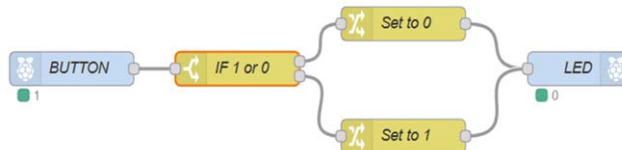

Figure 5.54 Modified flow program
You should see that the LED is ON, and pressing the button turns OFF the LED. Notice that in this flow program we want the opposite. i.e. the LED should be OFF normally, and pressing the button should turn it ON. A modified flow program that will work correctly is shown in Figure 5.54
- Create a **switch** node and name it as **IF 1 or 0**. Configure this node such that if the input is 1, direct it to the top output, otherwise, direct it to the second output. To direct to the second output, click add, and select **otherwise** as shown in Figure 5.54. Click **Done**.
- Join the 5 nodes as shown in Figure 5.54, and click **Deploy**.